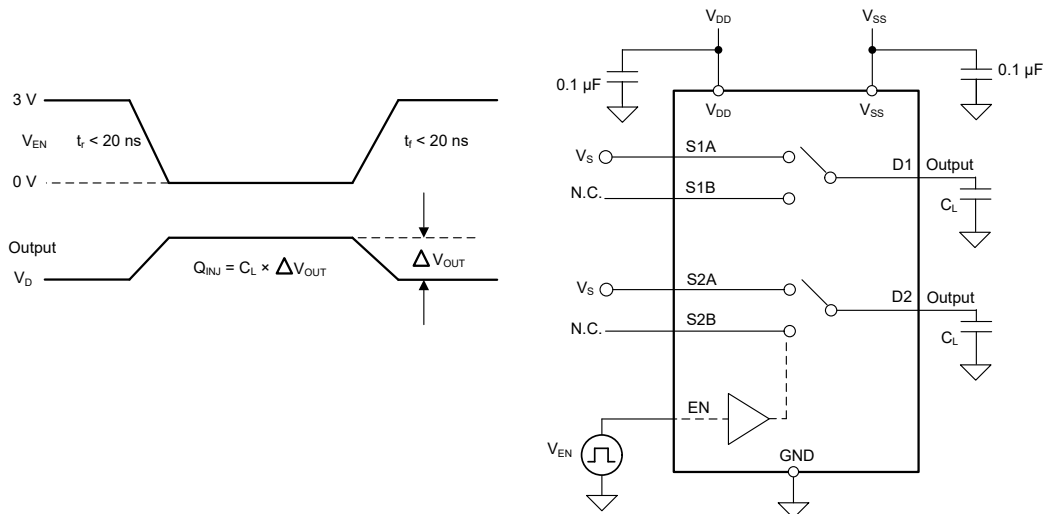

図 6-9. Charge-Injection Measurement Setup
The TMUX7236 has a transmission-gate topology. Any mismatch in capacitance between the NMOS and PMOS transistors results in a charge injected into the drain or source during the falling or rising edge of the gate signal. The amount of charge injected into the source or drain of the device is known as charge injection, and is denoted by the symbol  $Q_{INJ}$ . 図 6-9 shows the setup used to measure charge injection from source (Sx) to drain (D).